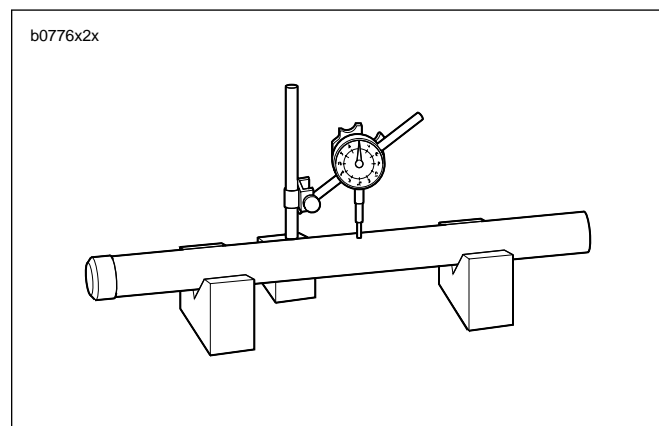

Figure 2-71. Slider fork Runout
3. Check the slide bushing (21) and the guide bushing (22) for excessive wear or scratches. Replace if damaged or worn.
4. Replace the stopper ring (19) if distorted.
5. Measure spring (17) free length. Replace springs shorter than service wear limit of 10.92 in. (277.5 mm) in 41mm front fork assemblies and 14.31 in. (363.6 mm) in 43mm fork assemblies.
6. See Figure 2-71. Measure slider fork runout. Replace pipe if runout exceeds the service wear limit of 0.008 in. (0.2 mm).